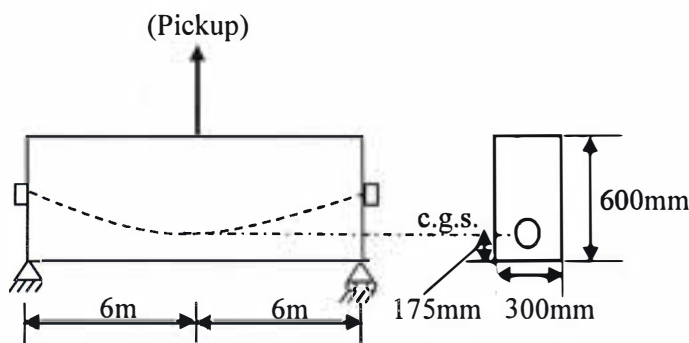

Figure: 1
2. (a) Show the stress distributions in a prestressed concrete beam section for different locations of compressive force (C) according to elastic theory. (8)
- (b) A prestressed bonded beam with a transfer prestress of $F_t = 1560\text{ kN}$ is being wrongly picked up at its mid-span point as shown in **Figure: 1**. Analyze the section to calculate fiber stresses. Check for cracking; Given, $f_r = 0.62\sqrt{f'_c}$, $f'_c = 34\text{MPa}$. (12)